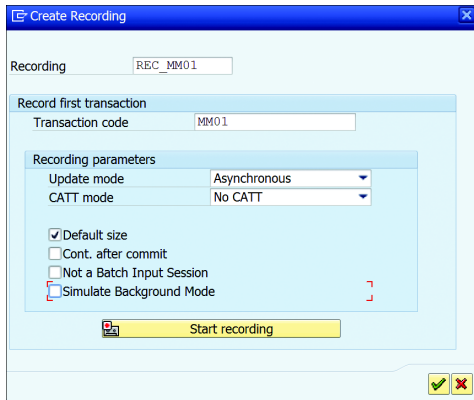

Figure 19.8 Create Recording Screen
2. In the CREATE RECORDING dialog box, as shown in Figure 19.8, provide a name for the recording and enter the transaction code for which the recording should be performed. You can also set the UPDATE MODE to update the data. There are three update modes available, as listed in Table 19.3.
Also provide the following settings in the CREATE RECORDING box (Figure 19.8):